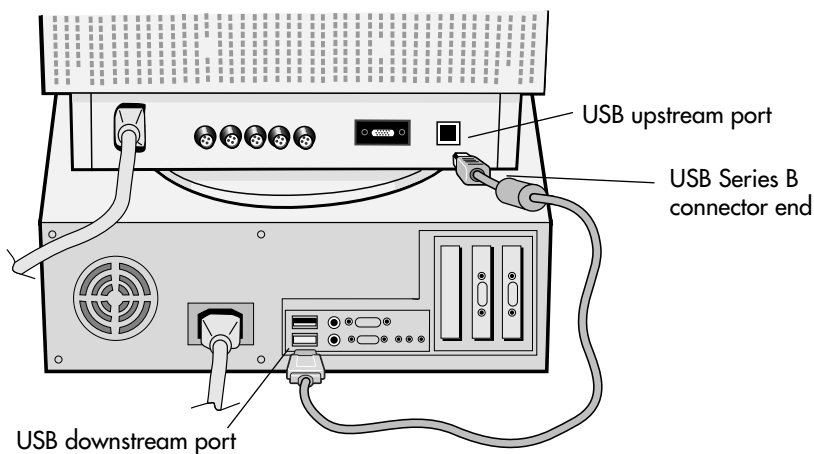

Figure 1
1. Using the supplied USB cable, connect the USB Series B connector end to the USB upstream port on the monitor (**Figure 1**).
2. Connect the other end of the supplied cable to the USB downstream port on the computer (or to a USB Hub attached to the computer (**Figure 1**)).